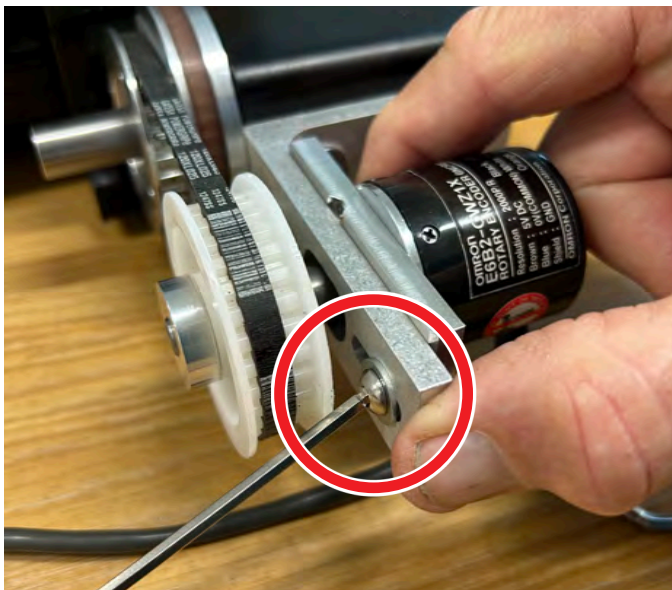

FIGURE 28
13. While maintaining the proper belt tension, use a “Ball End” 9/64” hex wrench to tighten the outer 10-32 mounting screw (P/N 94010). Then tighten the inner mounting screw (see Figure 28).